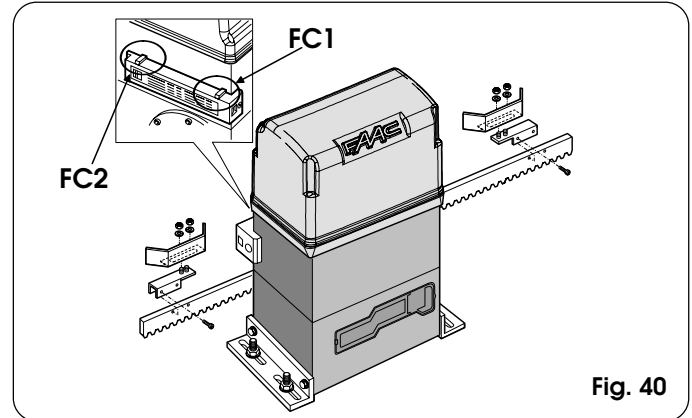

Fig. 40
- 1) Assemble the limit-switch by centring the plate with respect to threaded pins of the support (Fig. 40).